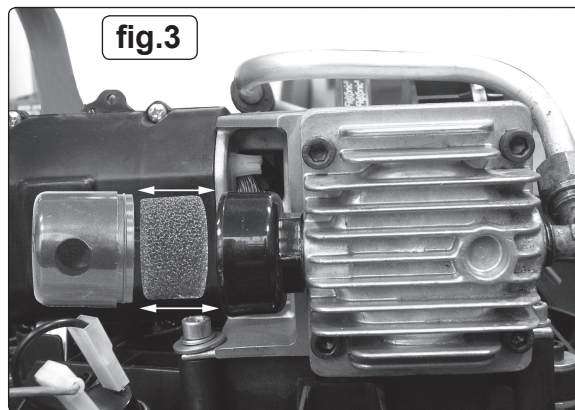

fig.3
- b) Remove the filter element by pulling the filter cover from the housing (fig.3).